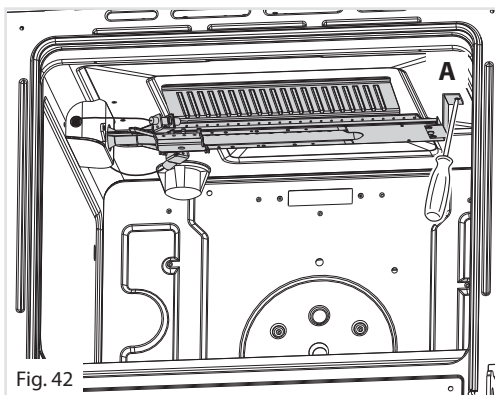

Fig. 42
- Unscrew and remove the burner securing screw "A" (fig. 42).